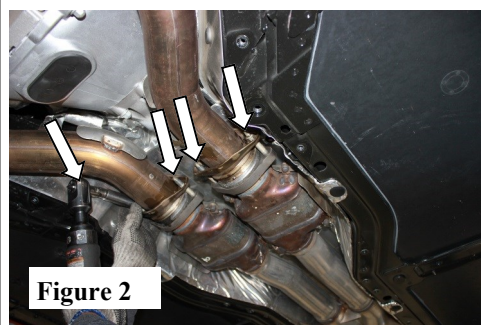

Figure 2
2. Loosen and remove flange bolts at front of mid-pipe. Keep hardware for reinstallation late. (See Fig. 2)